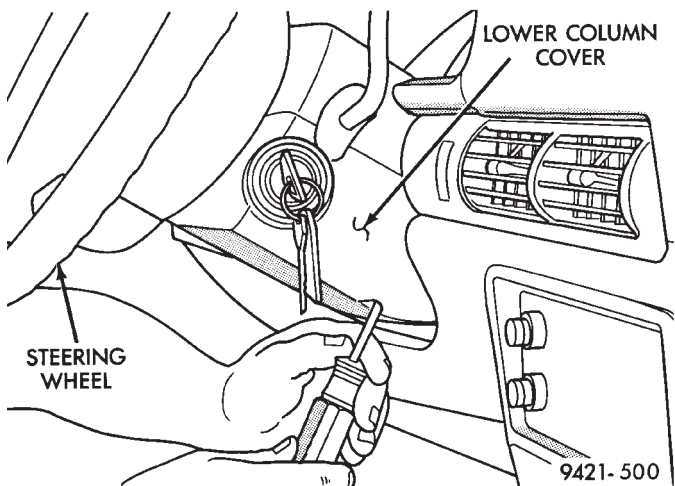

Fig. 14 Lower Column Cover Screw Removal
(2) Remove column cover screws (Fig. 14).